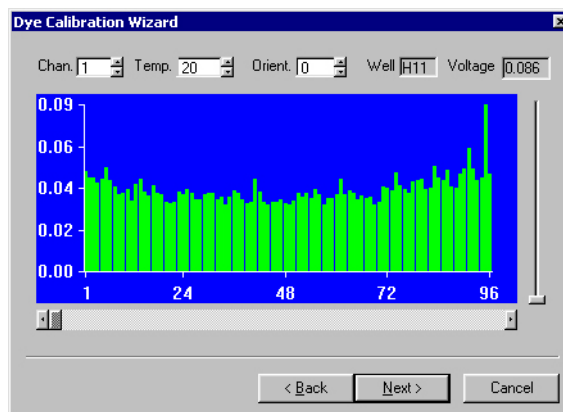

Figure 10-3. Fluorescence data for empty plate
10. After the empty plate has been scanned, you will be able to view the acquired data and check it for anomalies that may indicate a problem with the plate (e.g., unusually high signal in certain wells). See Figure 10-3, below: